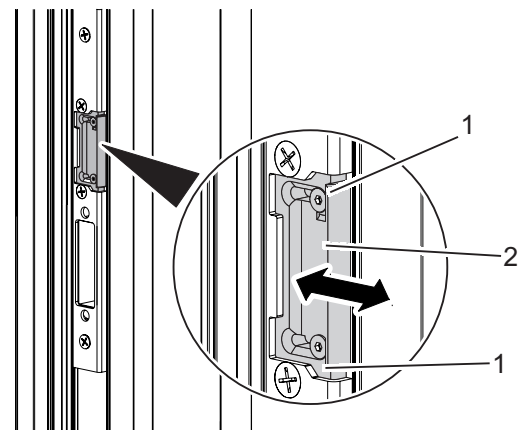

Fig. 41: Adjusting the center locking plate
1. Slightly loose the screws (Fig. 41/1).
2. Move the center locking plate (Fig. 41/2) into the desired direction.
1. Loosen the threaded pins and hinge pins (Fig. 41/4).
2. Lift the hinges (Fig. 41/2) of the single action door (Fig. 41/1) from the door hinges (Fig. 41/3) of the wall mounting profile.